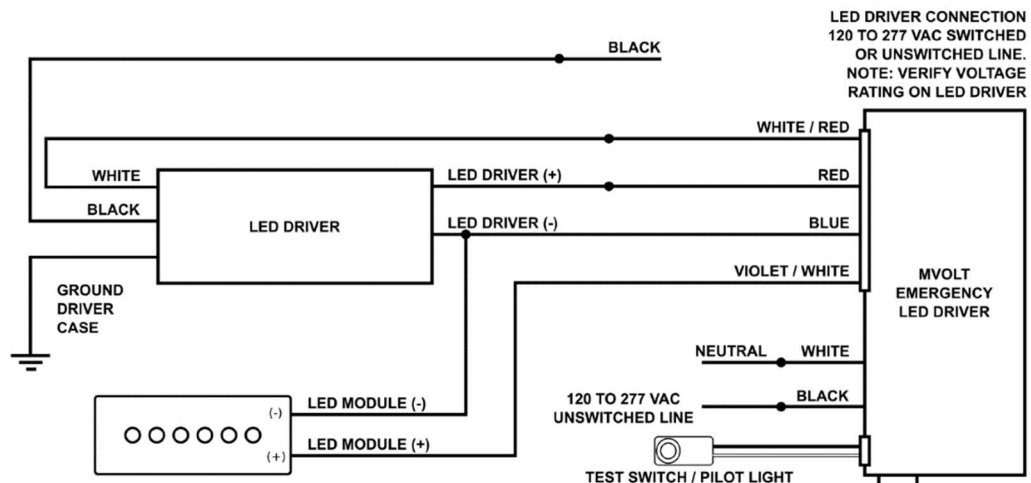

FIG 6: FACTORY BATTERY WIRING DIAGRAM
5. (BATTERY OPTION) If fixture includes **factory installed emergency battery**. See Figure 6.